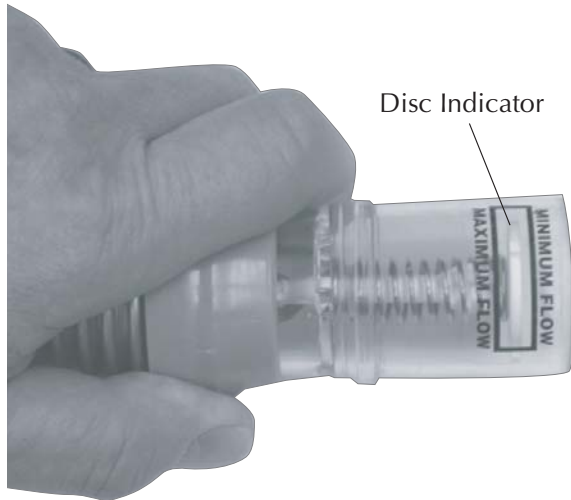

Figure 11 - Flow Indicated on Flow Gauge.
3. Turn the adjustment knob on the flow regulator until the indicator on the flow gauge is between the maximum and minimum flow (See Figure 11).